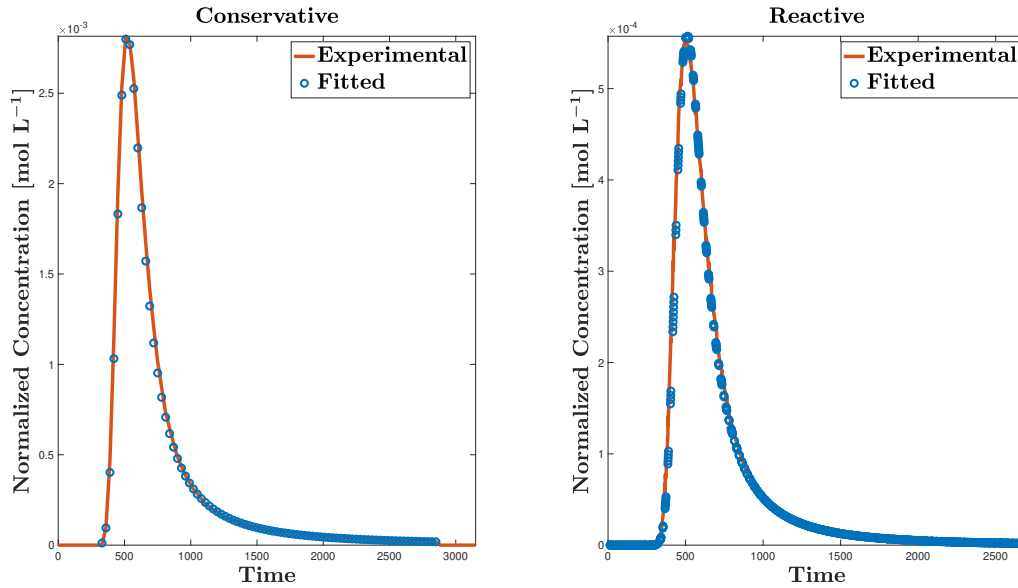

Figure 2: Results of conservative and reactive fits, by running `exampleRun.m` on the provided data, ‘ExampleExperimentalBTC.mat’
- The results of the conservative and reactive fits are depicted in Figure 2.